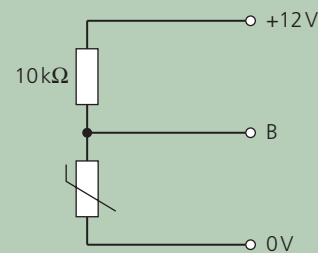

Figure Q4
4. A temperature sensor input subsystem is shown in Figure Q4.
- a. The thermistor in Figure Q4 has a resistance of $45\text{ k}\Omega$ at 0°C , $20\text{ k}\Omega$ at 25°C and $1\text{ k}\Omega$ at 100°C . Calculate the output voltage at B at a temperature of 25°C .